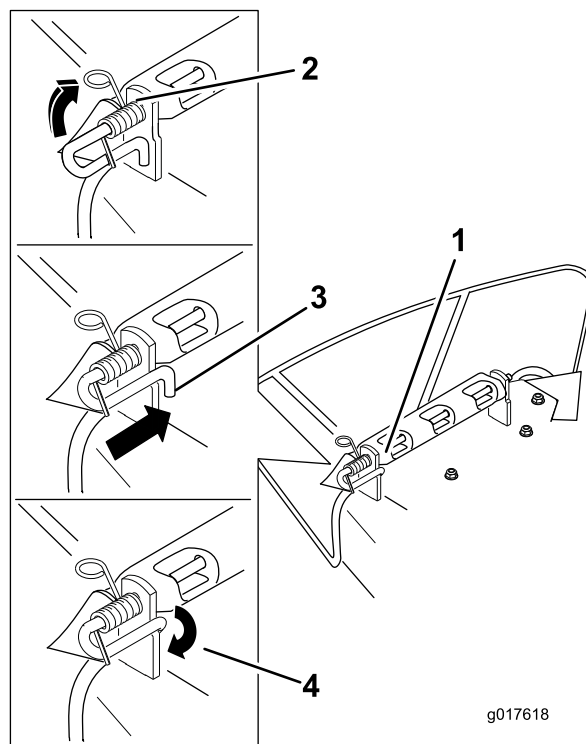

**Figure 59**
1. Disengage the spring from the notch in the deflector bracket and slide the rod out of the welded deck brackets, spring, and discharge deflector (Figure 59).